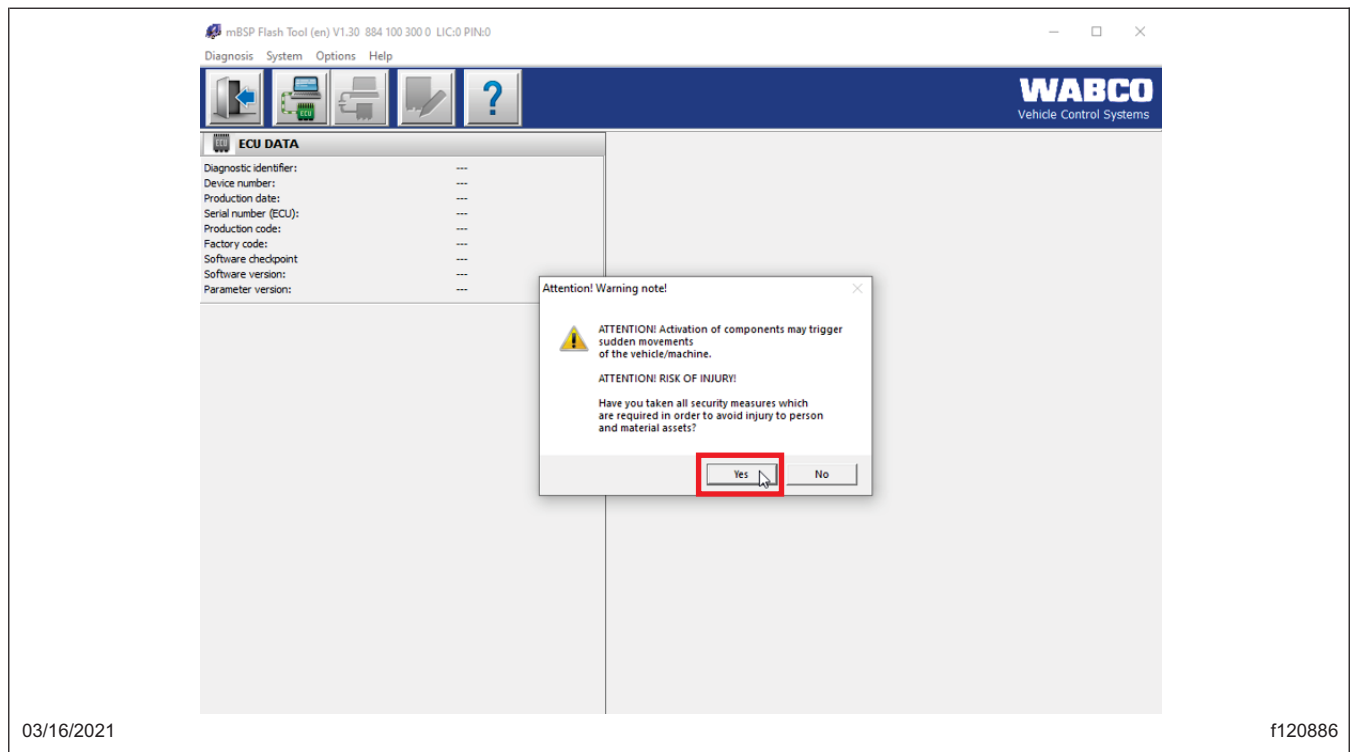

Fig. 26, Accepting the Warning
11. The program will open with a warning note. See Fig. 26. Read the warning note. If the vehicle is secure, select 'Yes'.